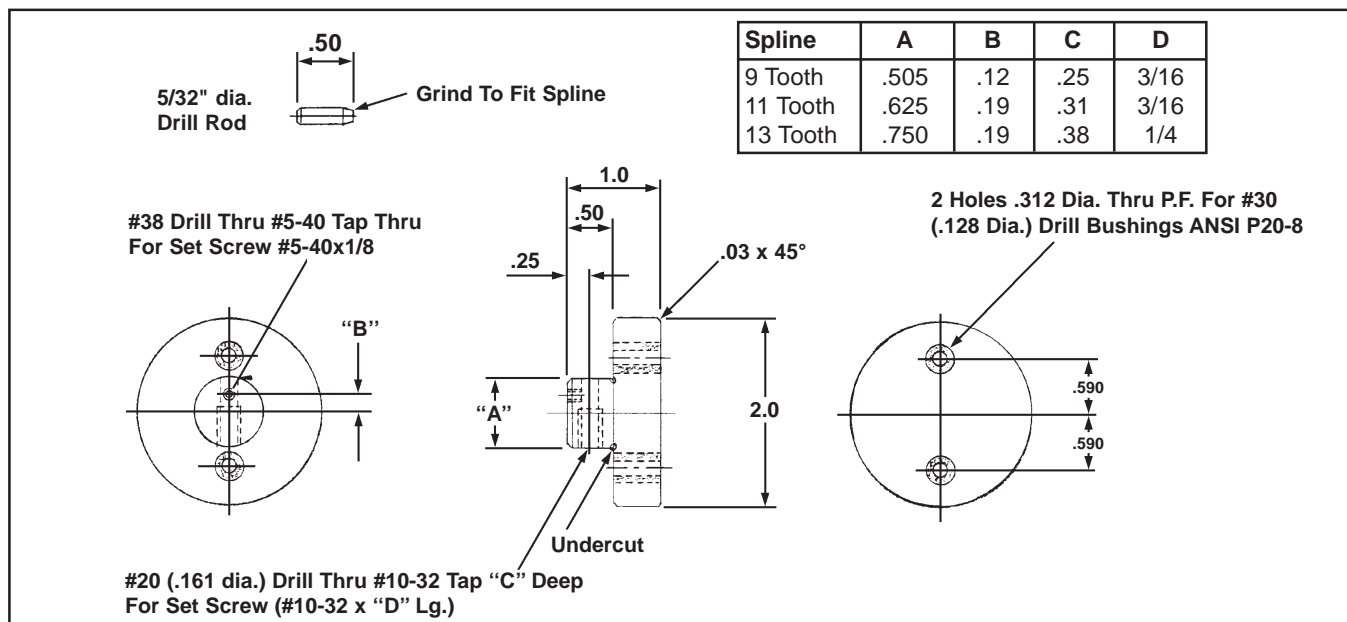

Figure 6.
- Drill new holes for the retaining pins. The insert is considerably harder than the crankshaft. It is very difficult, if not impossible, to drill the holes with a hand drill as the bit will tend to veer into the softer material. It must be done on a drill press or similar machine where the crankshaft can be securely mounted and the drilling kept straight. A drilling aid like the factory uses is advisable. See Figure 6. You might want to contact a machine shop for this operation if you have any doubts about your own equipment and/or capabilities.